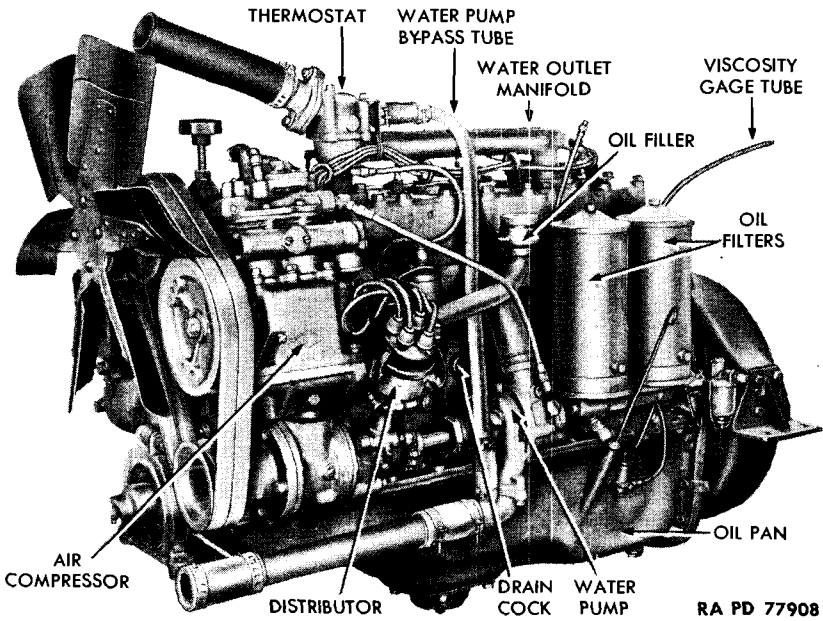

Figure 11 — Engine — Left Front
a. Description (figs. 11 and 12).
(1) The engine is a Hercules RXC 6-cylinder internal combustion gasoline engine of the "L" head type. The crankcase is cast integral with the block. Full length water jackets provide maximum cooling efficiency. A seven-bearing counterbalanced crankshaft is fitted with brass-backed replaceable type bearings. It has forged steel rods and cam ground, aluminum alloy pistons. The exhaust valve seats are a heat-treated cast-iron alloy. Water is drawn from the radiator by a gear driven pump, then forced through a long water manifold into the engine. A water bypass tube, which leads from the water connection on the front cylinder head to the coupling connection at the water pump, provides adequate circulation of the cooling fluid when the thermostat is closed. The engine is supported in the chassis by a three-point rubber mounting. The rear support arms are cushioned on brackets riveted to the side frame members. The trunnion type front support bracket, bolted to the engine support crossmember, permits the engine to pivot slightly with the torsional twist of the frame when the vehicle is being operated over rough ground.
a. Drain Cooling System. Open the two drain cocks, one of which is located on radiator outlet elbow, the other on the side of cylinder block above the water pump (fig. 11).